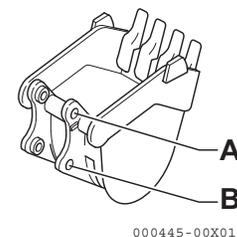

Fig. 3-74
4. Remove pins (Fig. 3-74, A) and (Fig. 3-74, B).
6. Connect the arm to pin (Fig. 3-74, A), and then connect the link to pin (Fig. 3-74, B).
8. Install the collars and bolts into the bucket pins (Fig. 3-74, A) and (Fig. 3-74, B).